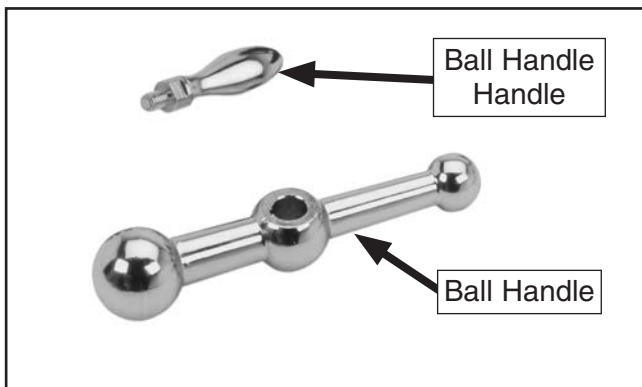

Figure 10. Ball handle assemblies.
1. Remove the hex nuts from the X- and Y-axis leadscrews, then slide the ball handles (**Figure 10**) onto the leadscrews and secure them with the hex nuts.